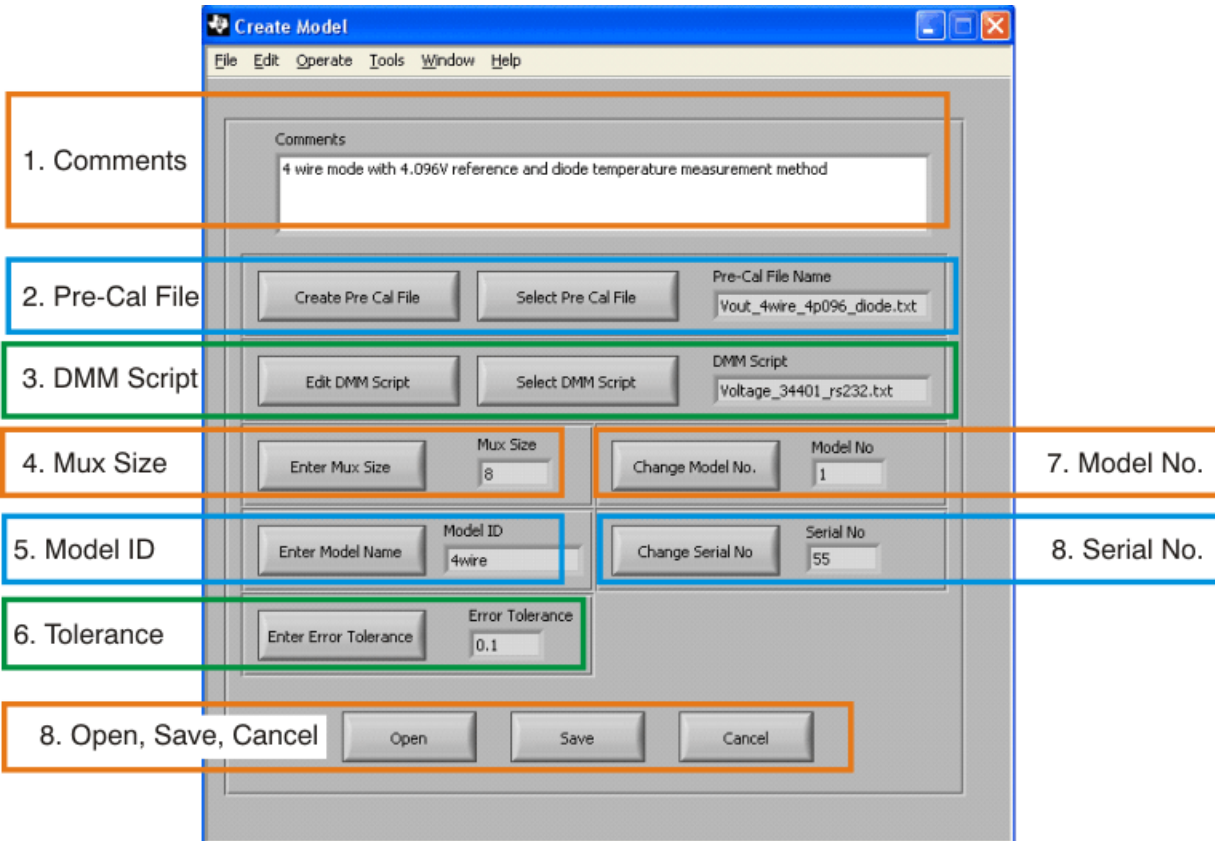

Figure 14. Multi-Cal-PGA309 Software Model File: Power-Supply Script
Figure 14 shows the *Create Model* display in the Create Model File editor window.
8. **Serial No.:** This number is the first of the sequence of serial numbers during a calibration. In the example given in Figure 14, the serial numbers would be 55 through 62 for an eight-channel system. Note that this number is updated at the end of each calibration so that you do not have overlapping serial numbers. This number is also written into the EEPROM, and incorporated into the calibration filename and reportname that is generated at the end of calibration sequence.